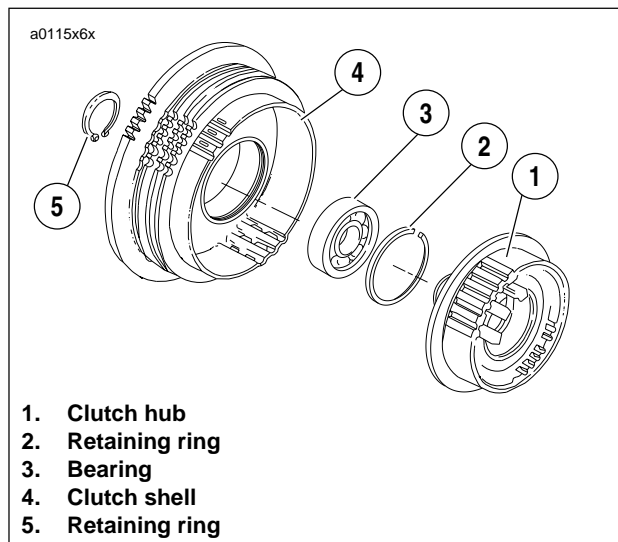

Figure 6-20. Clutch Hub and Shell Assembly
3. See Figure 6-20. Place a wrench on the clutch spring forcing screw flats to prevent the forcing screw from turning.
1. See Figure 6-20. Assemble clutch hub and shell if necessary.